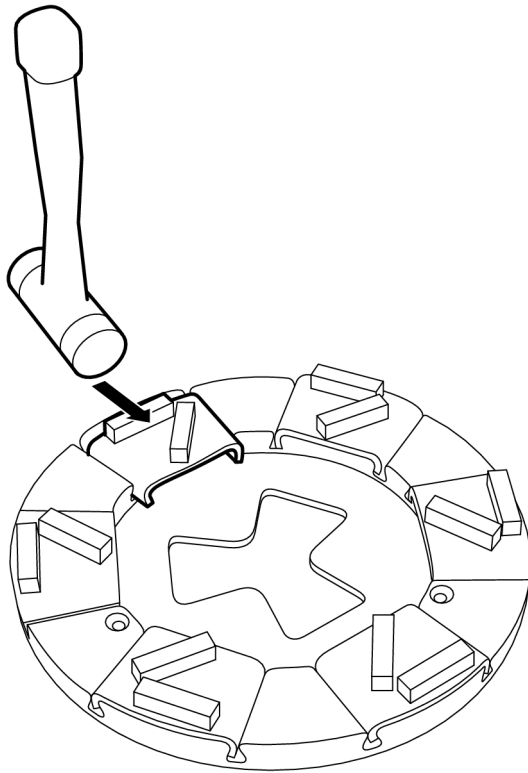

Figure 4-5. Removing grinding tools
1. Remove the grinding tool by giving it a few light taps with a rubber hammer so the locking mechanism releases, see Figure 4-5, page 17. Then draw the tool up out of the guide slot.